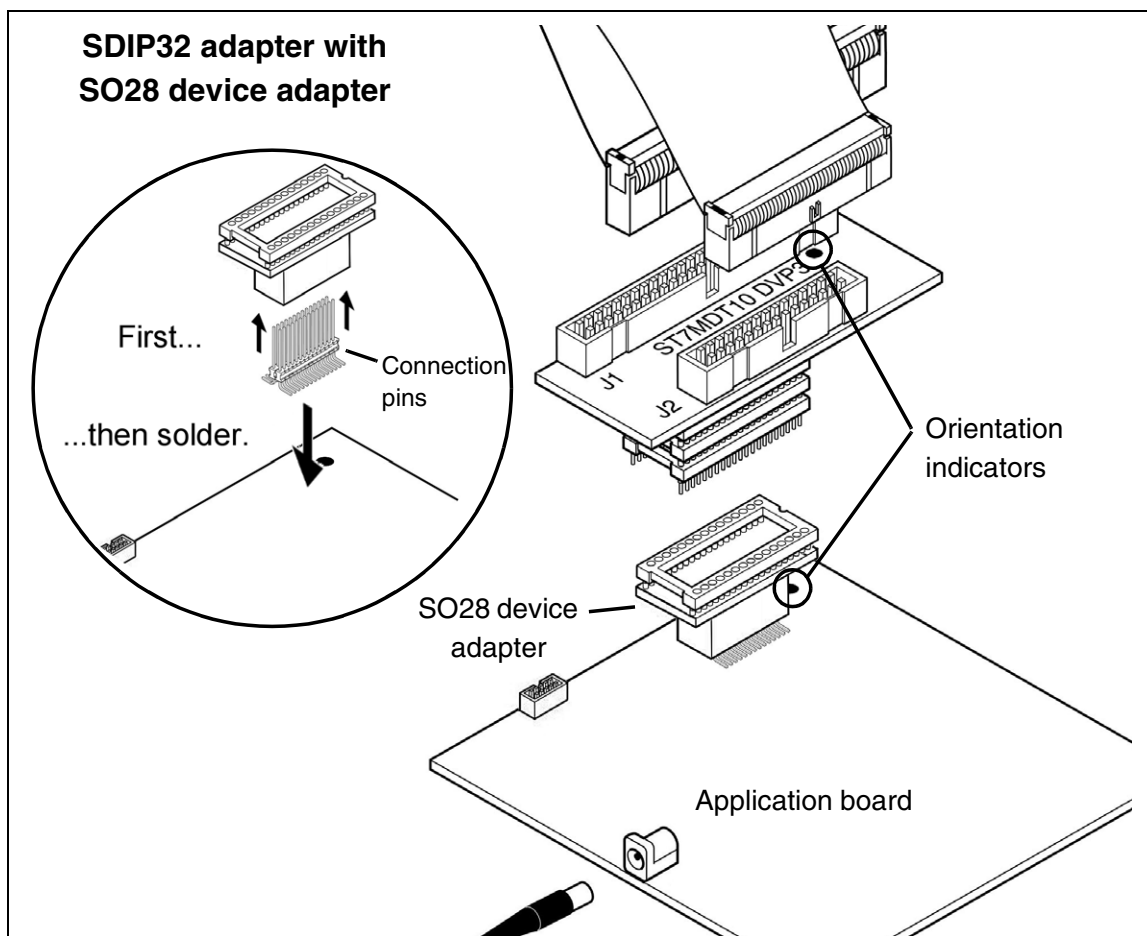

Figure 10: SO28 connection to application board
- 1 Solder the connection pins for the SO28 device adapter to your application board. When soldering, insert the two sets of connection pins into the device adapter. The device adapter will serve as a support during soldering and will ensure the correct spacing and alignment of the pins (see inset in Figure 10).
- 4 Plug the other end of the 34-pin flat cable into J1 on the SDIP32 adapter (ref.: DB585), as shown in Figure 10. Then plug the 26-pin flat cable into J2.
- 5 Insert the pins of the SDIP32 adapter into the SO28 device adapter (see Figure 10). Align the orientation indicators on the SDIP32 adapter and on your application board to ensure that the its pin number 1 is aligned with pin 1 on your application board.